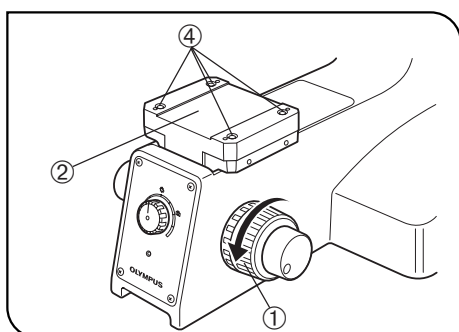
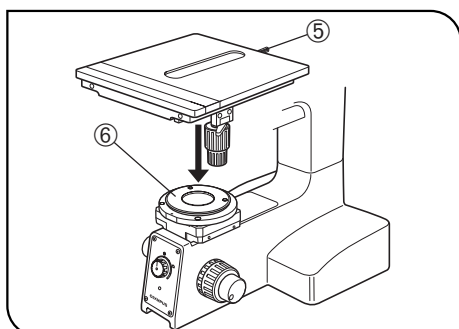

Fig. 31
Fig. 33
1. Turn the coarse adjustment knob ① in the direction of the arrow to lower the reflected light spacer ② to the lower limit. (Fig. 31)
2. Place the stage adapter ③ on the reflected light spacer so that index mark • on the stage adapter comes on the front, and align the screw holes on the stage adapter with those ④ on the reflected light spacer.
4. Fully loosen the clamping screw ⑤ of the U-SIC4R2/L2. (Fig. 33)
5. Fit the stage into the round dovetail ⑥ of the stage adapter from above, and tighten the clamping screw ⑤.